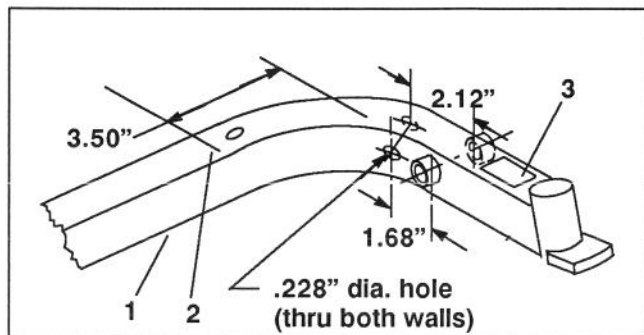

Figure 10
- Using dimensions shown in figure 10, locate, mark and drill a .228" dia. hole thru center of both walls in side of left lift arm.
- At location shown in figure 10, secure hose to lift arm with a cable tie.
- Approximately .12" from end of lift arm, as shown in figure 10, apply new warning decal.